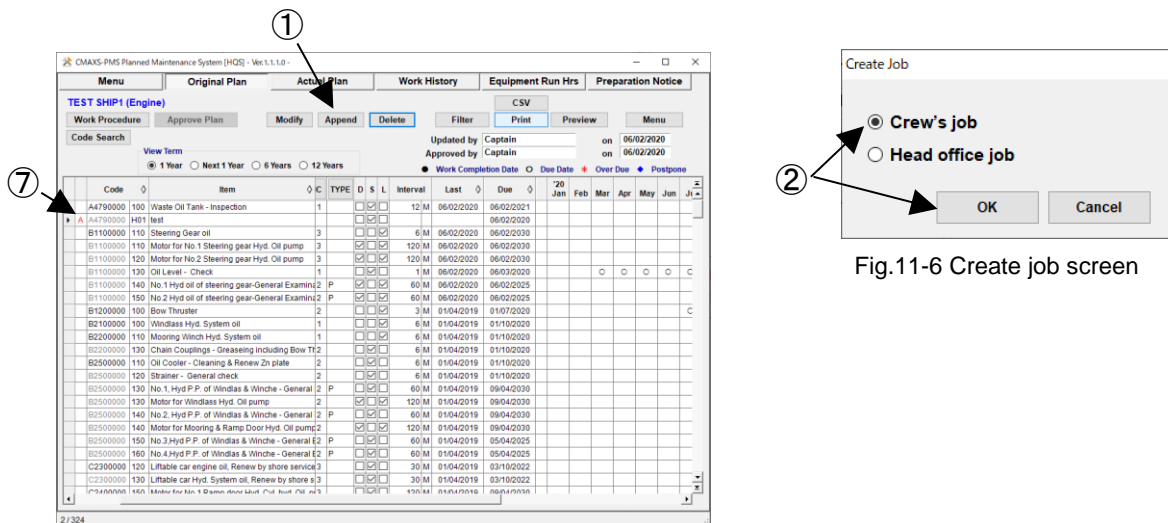

Fig.11-5 Original Plan screen
(1) If you want to add a Crew job, select the [Append] button in "Original Plan Screen" (Figure 11-5).